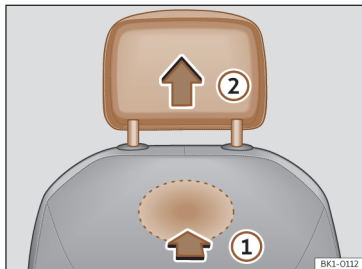

Fig. 106 Front headrest: removal.
- To unlock it, look for the rabbit on the bottom of the backrest and press in the direction of the arrow»» Fig. 106 ①.
- Remove the head restraint in the direction of the arrow ②.